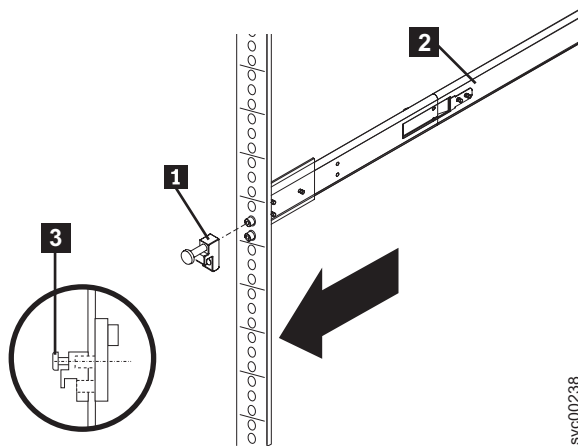

Figure 80. Attaching the latch strike to the front of the rail
5. Attach one latch strike **1** to the front of the right rail **2**, as shown in Figure 80, using the captive screw **3**. The screw should be only finger tight. Attach the other latch strike to the front of the left rail in the same way.